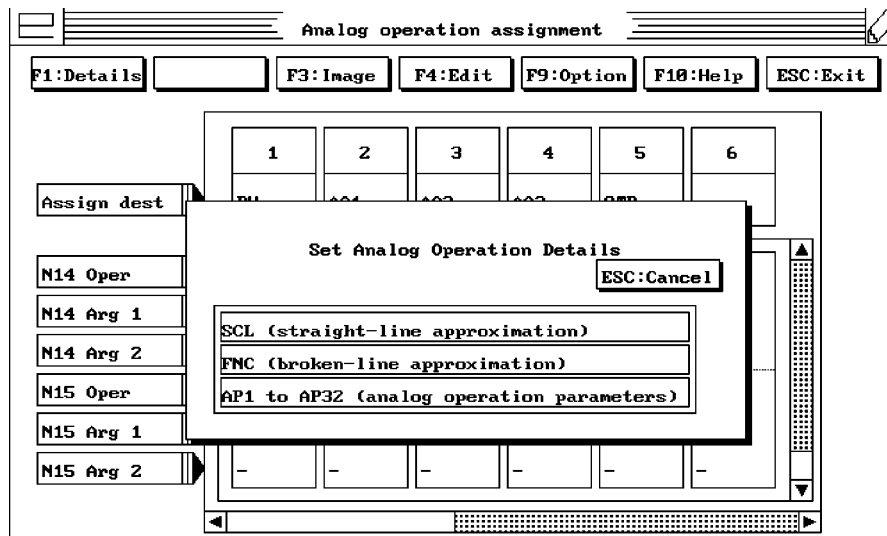

Figure 26
2. From the **Analog operation assignment** menu, select **F1:Details** (Figure 26). This will bring you to a selection of three options.